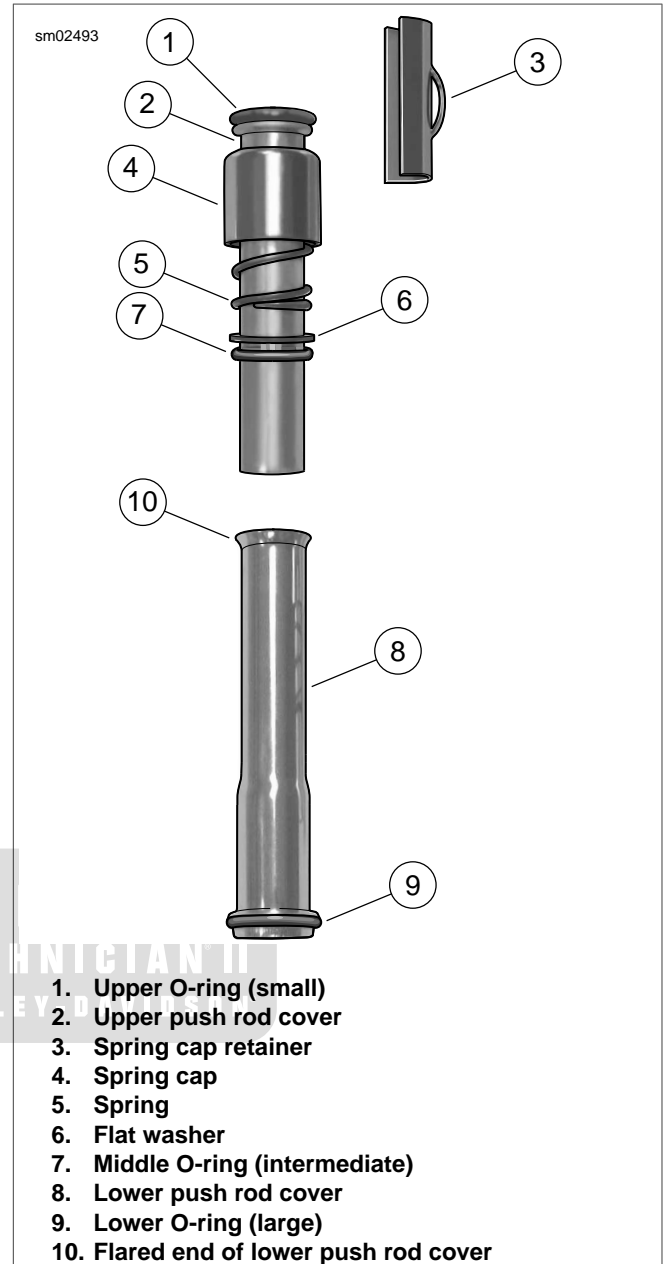

Figure 3-79. Assembled Push Rod Cover
1. See Figure 3-79. Obtain three **new** o-rings (1, 7 and 9). Apply a very thin film of clean H-D 20W50 engine oil to o-rings before installation.
2. Install **new** small o-ring (1) on seat at the top of the upper push rod cover (2).
3. Slide the spring cap (4), spring (5), flat washer (6) and **new** intermediate size o-ring (7) onto the body of the upper push rod cover. Move parts up body until spring cap (4) contacts upper o-ring seat.
4. Fit the straight end of the upper push rod cover into the flared end of the lower push rod cover (8).
5. Install **new** large o-ring (9) on seat at bottom of lower push rod cover.